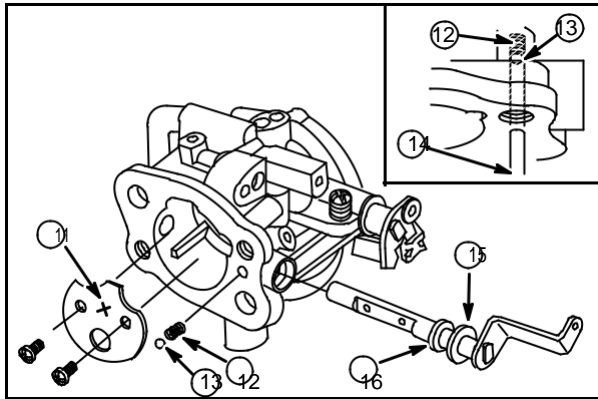

Fig. 53
Install new choke shaft seal (16) with sealing lip out, **Fig. 53**.
Push choke shaft into hole until ball engages groove in choke shaft, **inset, Fig. 53**.